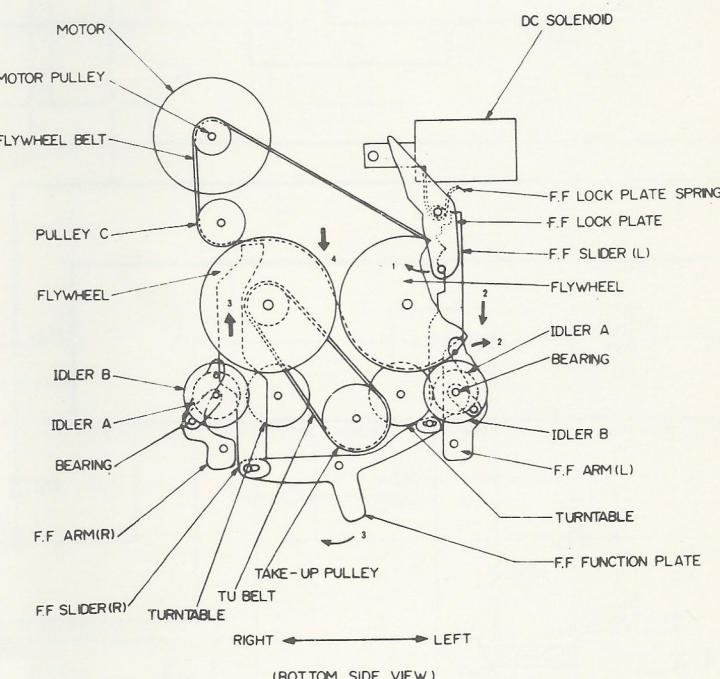

Fig. 3
2) IN FAST FORWARD (See Fig. 3)
(ii) Tape End during FF (refer to fig. 3).